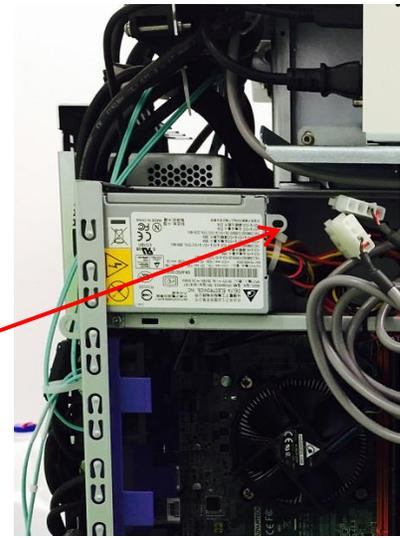

Figure 72: Cooling Fan 2 Left Side View
2. Disconnect the power cable bundle for the fan (refer to Figure 72).